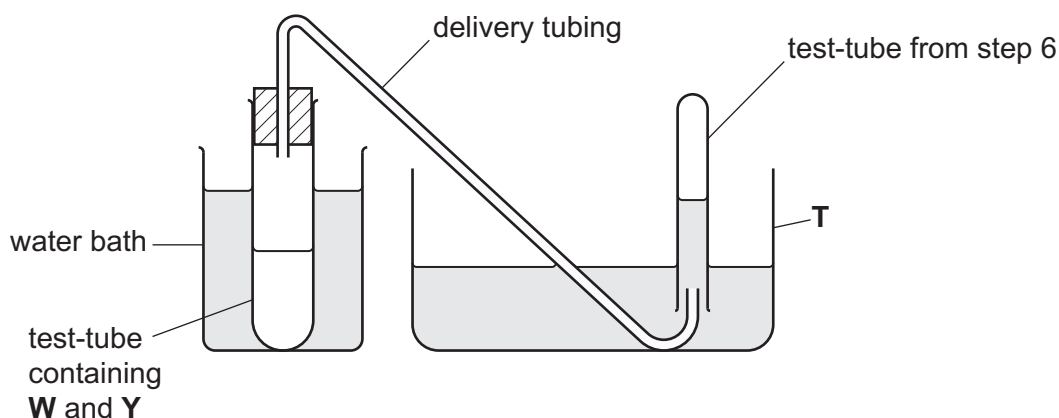

Fig. 1.4
Fig. 1.4 shows the apparatus you will set up for collecting the oxygen from the reaction.
10. Set up the apparatus as shown in Fig. 1.4.